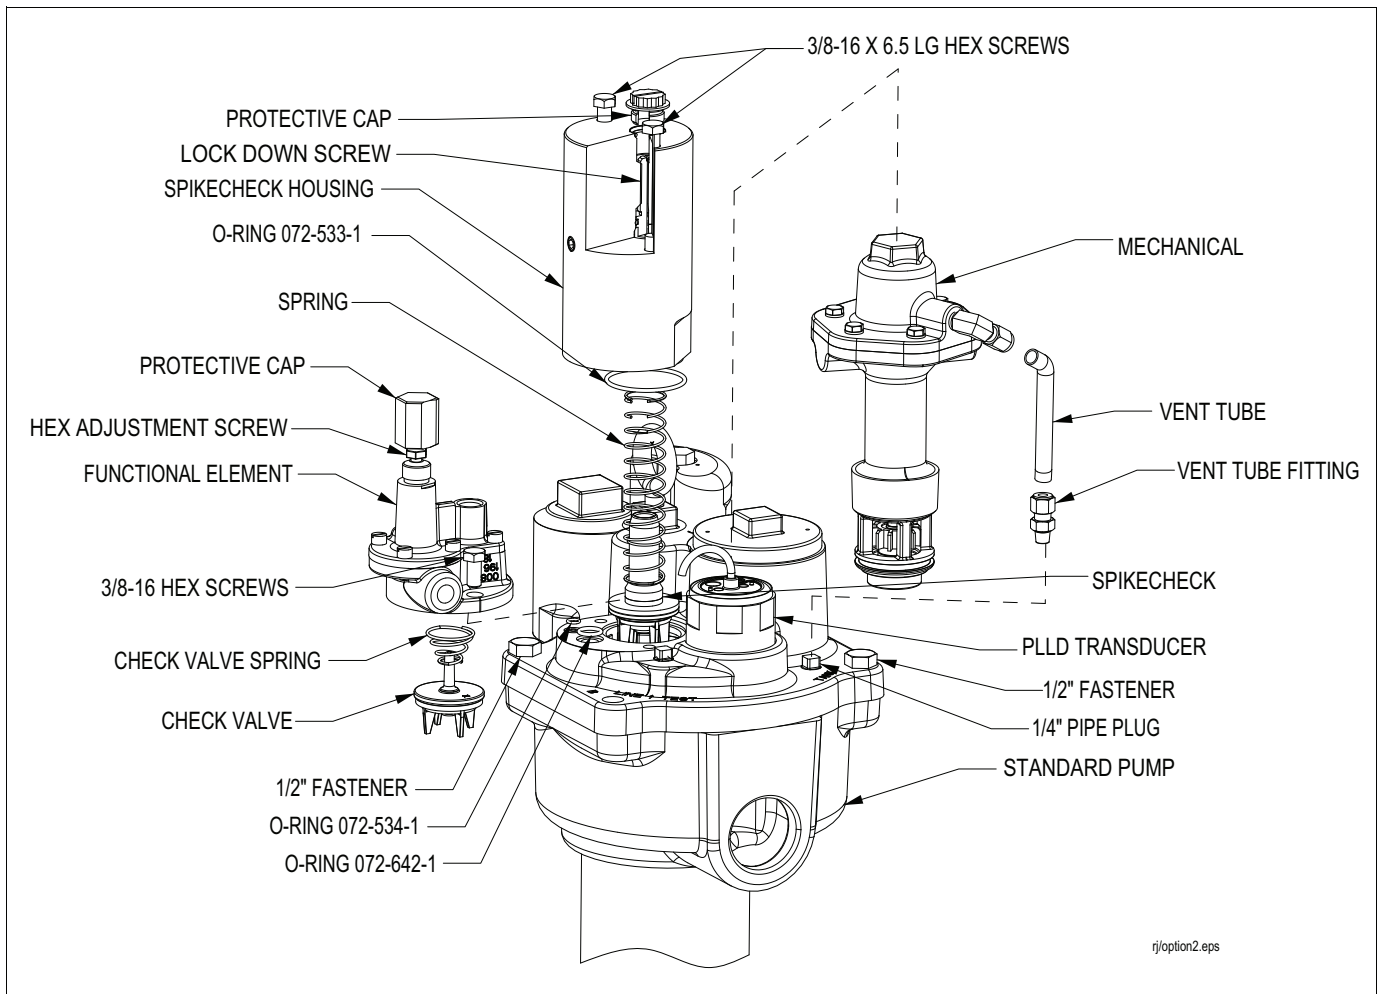

Figure 2. Option 2 – Converting a Standard Packer/Manifold Containing a Functional Element and Mechanical Leak Detector
2. Depressurize the packer by removing the protective cap on the functional element and rotate the hex screw counterclockwise to relieve pressure back to the fuel storage tank (See Figure 2).